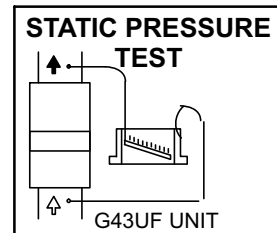

FIGURE 42
- 1 - Measure tap locations as shown in figure 42.